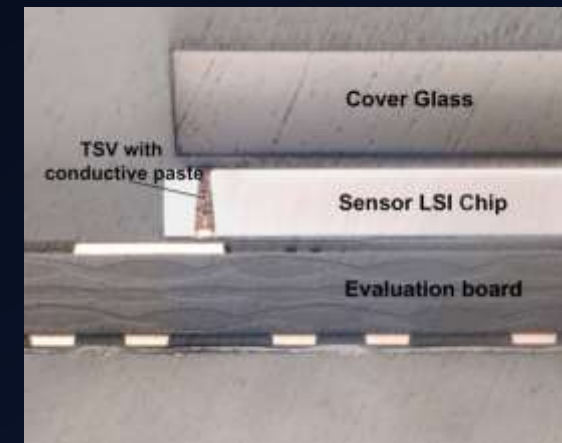

Figure 13.2 Cross-sectional view of CSP after packaging ^[11]
- Figure 13.2 gives the cross-sectional view after the TSV process was completed. The TSV has a diameter of $20 \mu\text{m}$ and depth of $270 \mu\text{m}$.